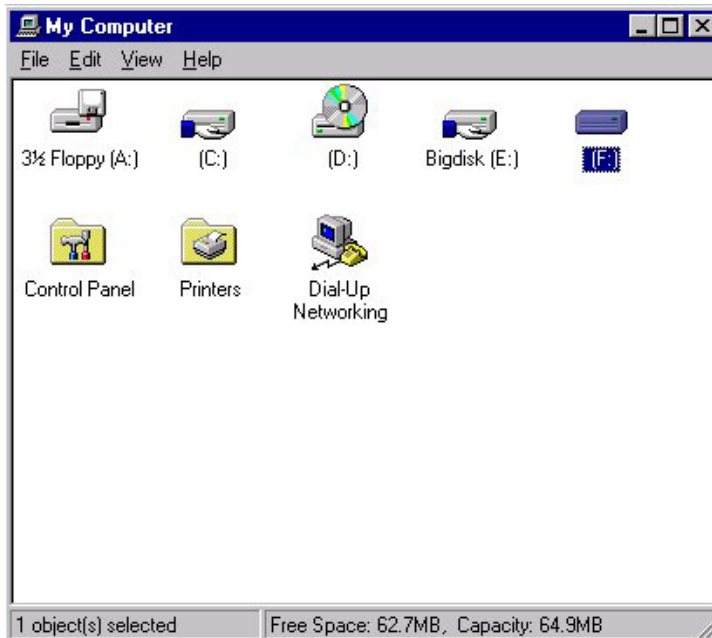

Figure 3.10 Displaying Connected Devices
1. From the Win2000 desktop, double-click **My Computer** to display all connected devices. All newly partitioned disks should display in this window (see Figure 3.10).